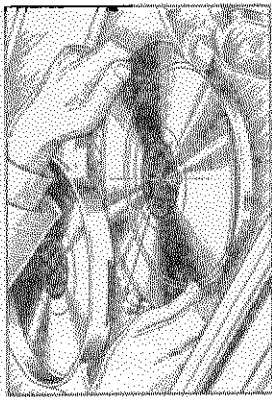

Figure 11—Method of checking transfer lever level adjustment
- (d) Improper Position of Record Transfer Lever. When a ten-inch record is placed so that its edge touches both pins on the record transfer lever, a line drawn from the center of the hole of the lever to the center of the record hole should pass directly over the center of the spindle. See Figure 11. The two record transfer lever mounting screws can be loosened and the lever shifted until this condition exists. Also when a record is on the turntable it should just clear this lever. Unless this adjustment is properly made the record may not center properly over the spindle.
One remote control box is supplied as standard equipment. Any number of additional boxes may be installed if desired although only one box can be used at a time for controlling the receiver. The boxes should be connected in parallel at the terminal strip on the rear of the Radiola. Figure 11 shows such a connection.